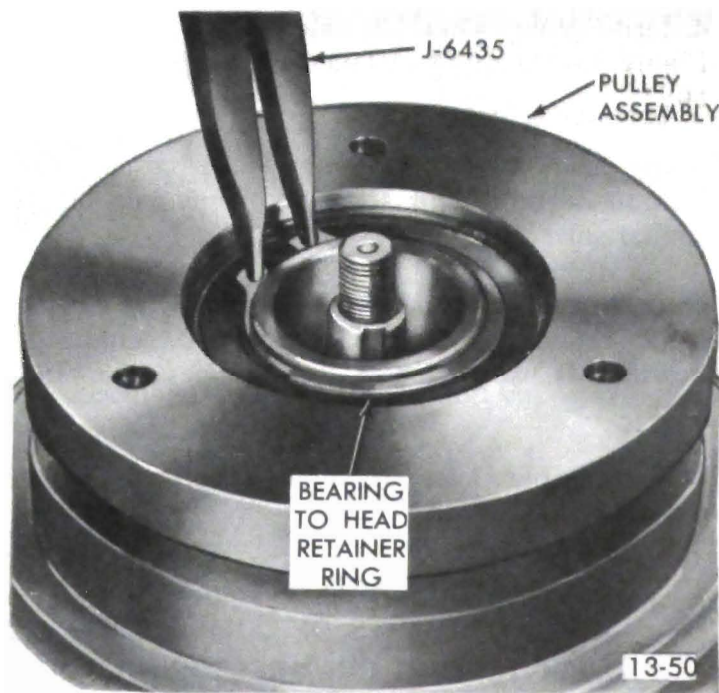

Figure 13-35 Removing or Installing Bearing to Head Retainer Ring
2. Using No. 26 Truarc pliers (J-6435) remove bearing to head retainer ring (see Figure 13-35).
5. Lock pulley assembly in position with bearing to head retainer ring (flat side of retainer ring downward) using No. 26 Truarc pliers (J-6435). See Figure 13-35.